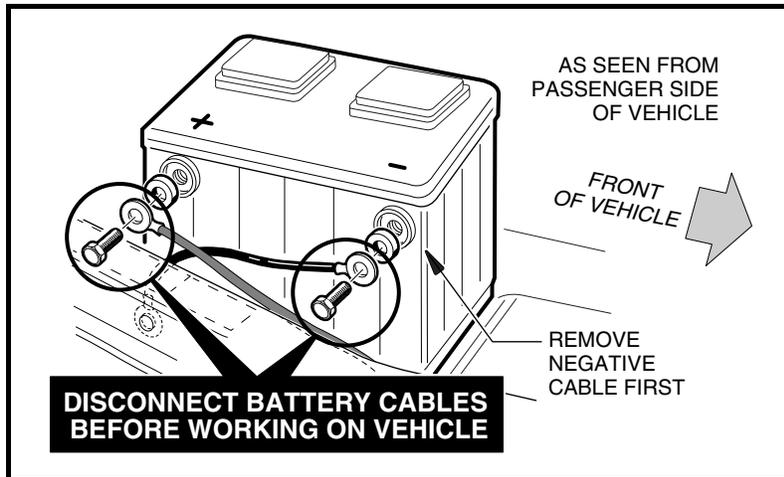

Figure 1-1 Battery
- Disconnect battery cables, negative (–) cable first (Figure 1-1, Page 1-3).